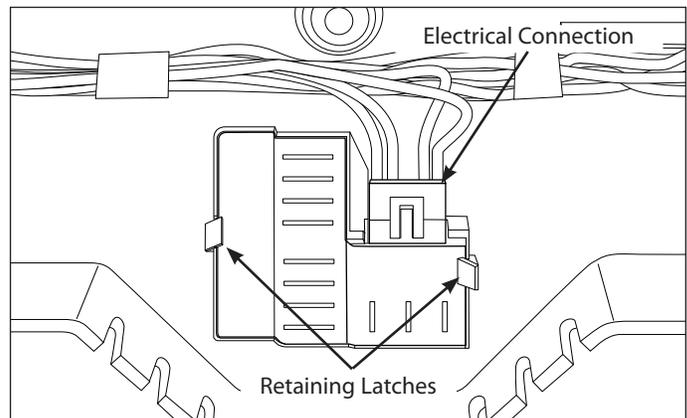

Figure 6-28.
4. Disconnect the humidity sensor from the wire harness. (See Figure 6-28)